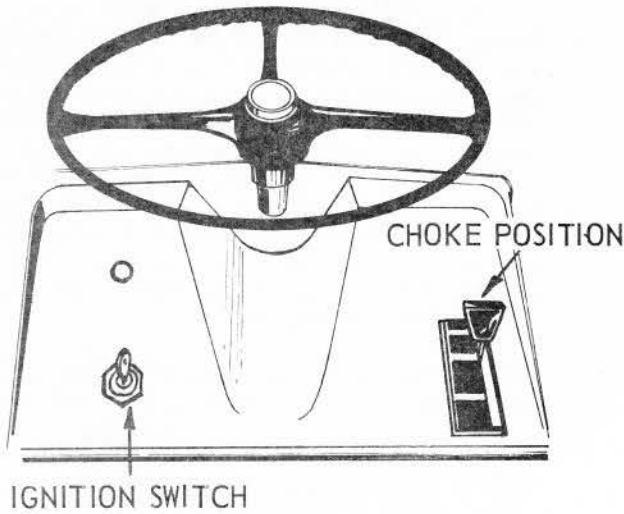

FIG. 8
5. Refer to Fig. 8. Turn key in ignition switch clockwise to "on" position.
7. After engine starts, move throttle lever to fast position; refer to Fig. 8.